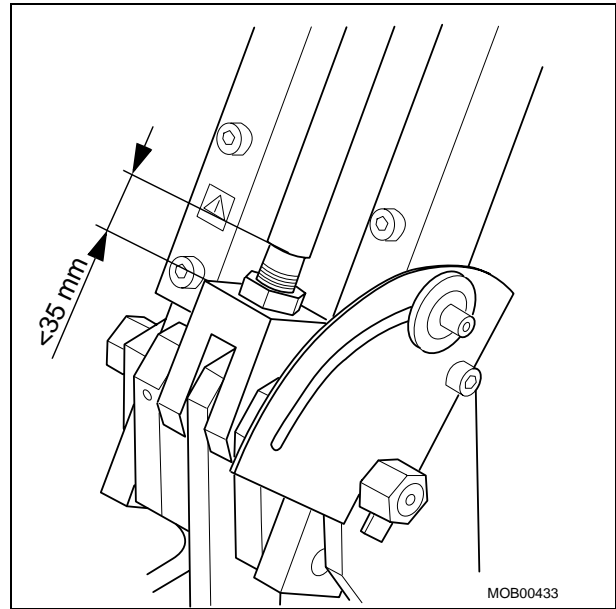

Fig. 3
- Make sure the visible part of the thread between the link and the key grip at the adjustment rod is always less than 35 mm (Fig. 3). If the visible part of the adjustment rod is longer than specified, the single tank and the arm might fall.